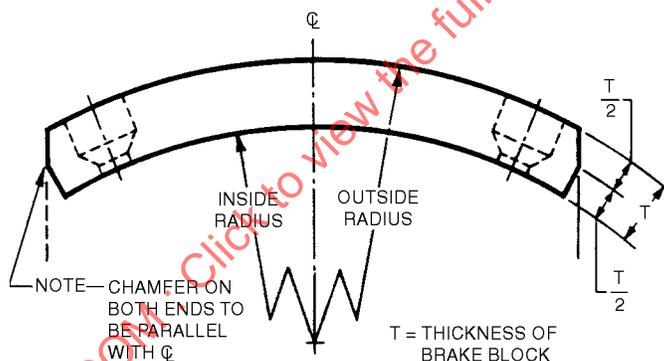

FIGURE 1—BRAKE BLOCK WITH 70 DEGREES OR LESS ARC
- 3.1 Where the arc length of the block is 70 degrees or less, the chamfer is formed by cutting off the ends of the block parallel to the centerline of the block length. These cuts are to intersect the radial ends at the centerline of thickness as shown in Figure 1.